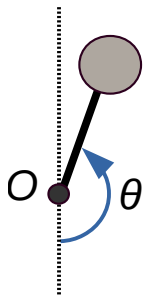

Figure 3: The angle θ is equal to 0 when arm is in the bottom position and is equal to π in the upright position.
- a) Implement the position discretization. The input may be outside the interval $[0, 2\pi]$, so be sure to wrap the state around (hint: use the `mod` function). The resulting state must be in the range $[1, \text{par.pos_states}]$. This means that π (the “up” direction) will be in the middle of the range. See the pendulum model shown in Figure 3.